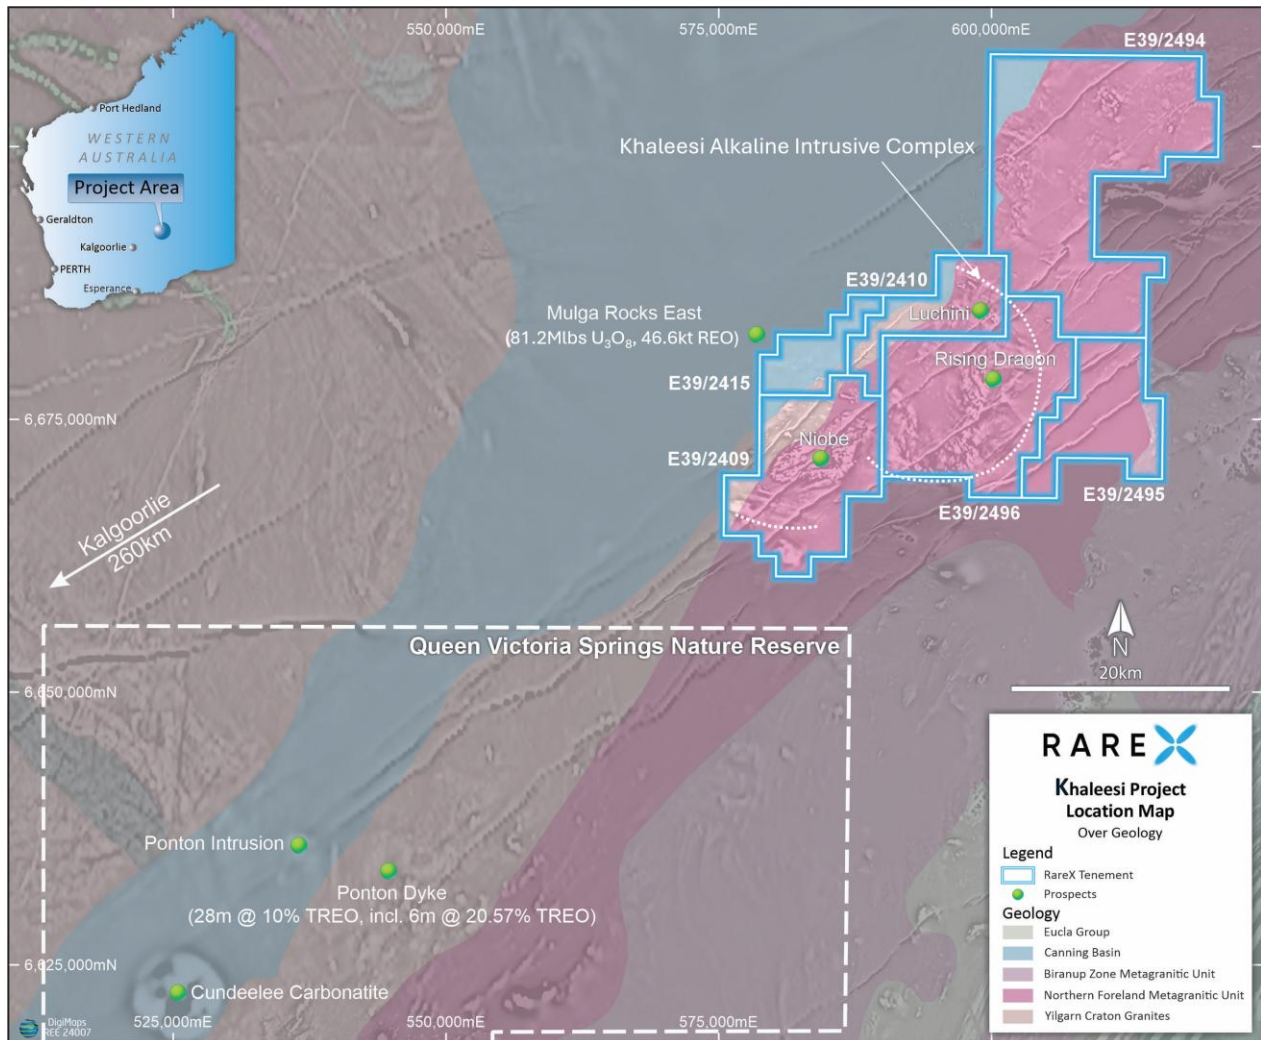

Figure 3. Khaleesi Project location with basement geology on regional TMI magnetics
- 20m at 70g/t Ga₂O₃ in clay, hole RDA204, Figure 3
- 32m at 67g/t Ga₂O₃ in clay, hole RDA205, Figure 3
- 20m at 67g/t Ga₂O₃ in clay, hole RDA203, Figure 3
The Khaleesi Project is located 260km northeast of Kalgoorlie on the contact between the Yilgarn Craton and the Albany Fraser Orogen (Figure 3). Most of the project lies within the Northern Foreland Unit and includes the 20 km Khaleesi Alkaline Intrusion Complex, which has been partly down-faulted into the Canning Basin beneath the Mulga Rocks uranium deposits.